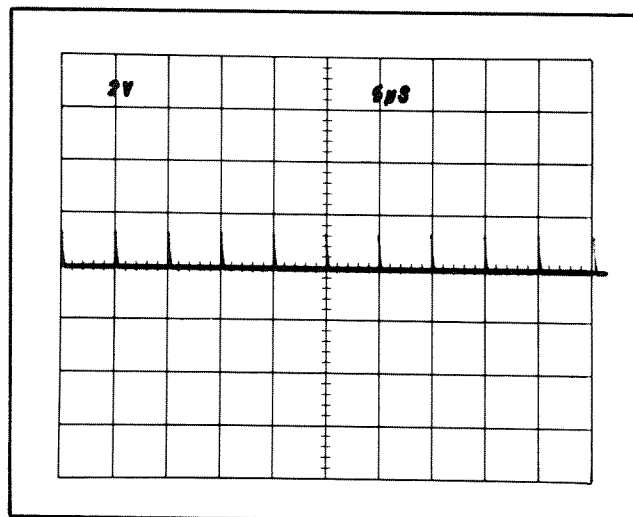

Fig. 5-7. CRT display showing correct 5 μs timing.
- c. CHECK—CRT display for one marker each division between the second and tenth vertical lines. Check that sweep timing is within 0.16 division (2%) over the center eight divisions. See Fig. 5-7.